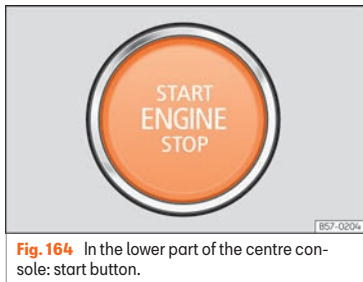

Fig. 164 In the lower part of the centre console: start button.
When entering the vehicle, the start button **>>> Fig. 164** flashes to draw attention to it.
- Press the starter button  **Fig. 164**; do not press the accelerator. There needs to be a valid key inside the vehicle for the engine to start. After starting the engine, the lighting of the **START ENGINE STOP** button remains fixed indicating that the engine is running.
- Briefly press the start-up button  **Fig. 164.**